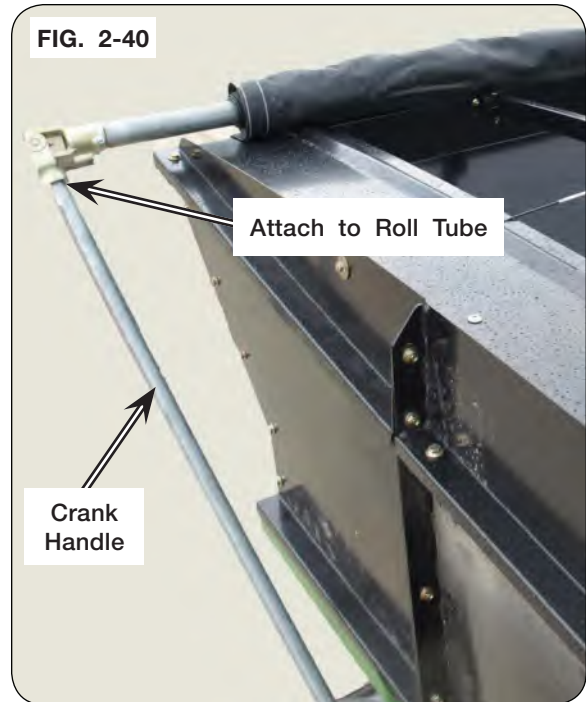

FIG. 2-37
6. Install end cap extension (283431B) between the end cap and right-hand sideboard on both the front and rear of cart. Retain in place using two 3/8"-16 x 1" carriage bolts (9388-051), two 3/8"-16 flange nuts (91263) and one 1/4"-14 x 1" self-drilling screw (9512) per end. See Figures 2-37 through 2-39.